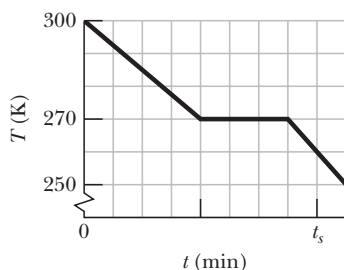

Figure 18-33 Problem 30.
•30 A 0.400 kg sample is placed in a cooling apparatus that removes energy as heat at a constant rate. Figure 18-33 gives the temperature  $T$  of the sample versus time  $t$ ; the horizontal scale is set by  $t_s = 80.0$  min. The sample freezes during the energy removal. The specific heat of the sample in its initial liquid phase is 3000 J/kg·K. What are (a) the sample’s heat of fusion and (b) its specific heat in the frozen phase?